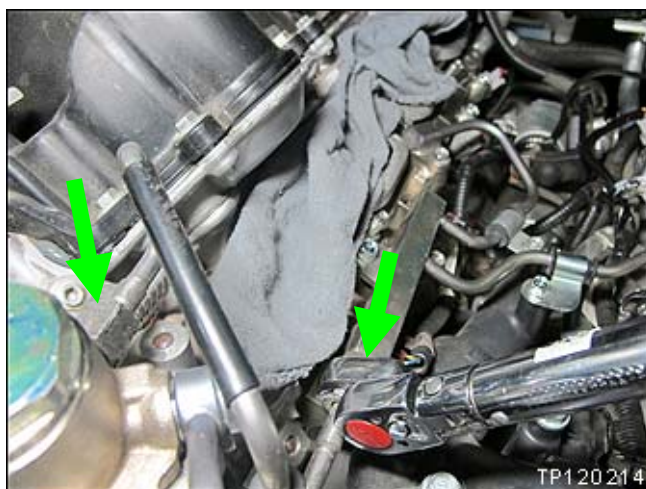

Figure 16
23. Torque the flange nuts shown in Figure 16: